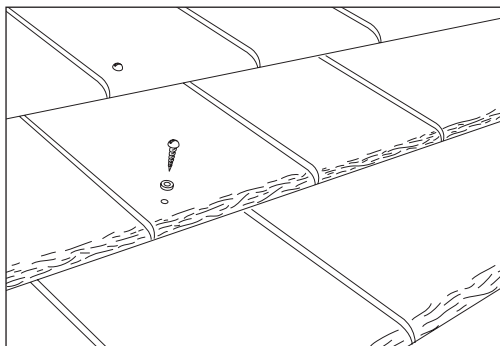

Fig 24 – Replacing Monarch/Marquess/Duo Marquess/Dalestone interlocking slates
- Repeat at batten gauge through R/H slate in next course above (see Fig 24).
- Screw through drilled hole and both layers of slate into batten below using No. 9 countersunk stainless steel screw with washer sealing as Monarch/Marquess slates (see Fig 24, page 24).